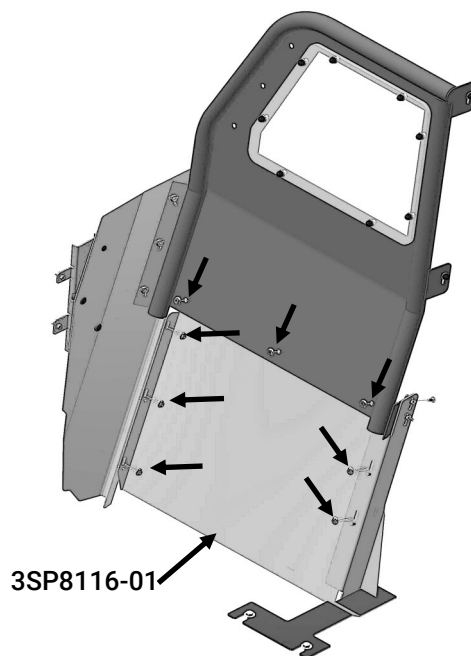

Fig. 5
- A. Install lower extension panel [3SP8116-01] to backside of partition and fasten to partition, center mounting bracket and partition mounting plate using (8) [3X36] carriage bolts and (8) [3X16Z] whiz nuts. (Figure 5)